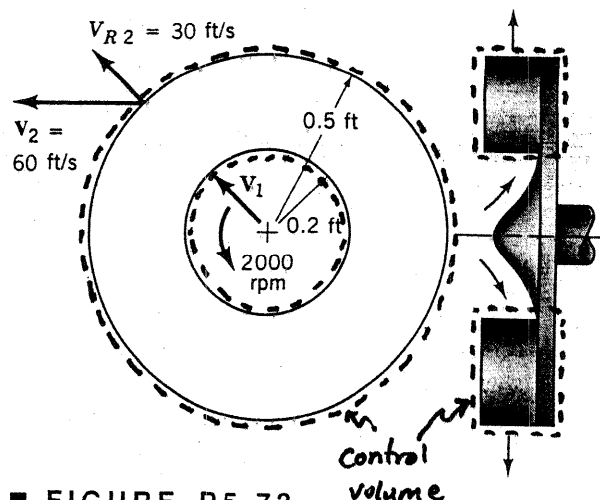

FIGURE P5.73
5.73 The radial component of velocity of water leaving the centrifugal pump sketched in Fig. P5.73 is 30 ft/s. The magnitude of the absolute velocity at the pump exit is 60 ft/s. The fluid enters the pump rotor radially. Calculate the shaft work required per unit mass flowing through the pump.